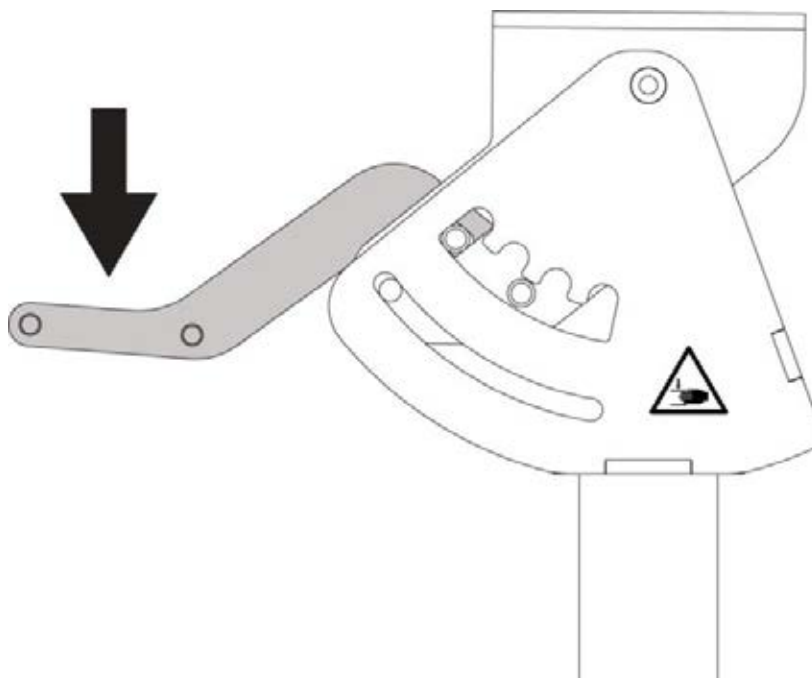

Figure 7 Dispenser Head Angle Adjuster Handle
2. Pull the **Dispenser** Head Angle Adjuster Handle down with one hand (refer to Figure 7).